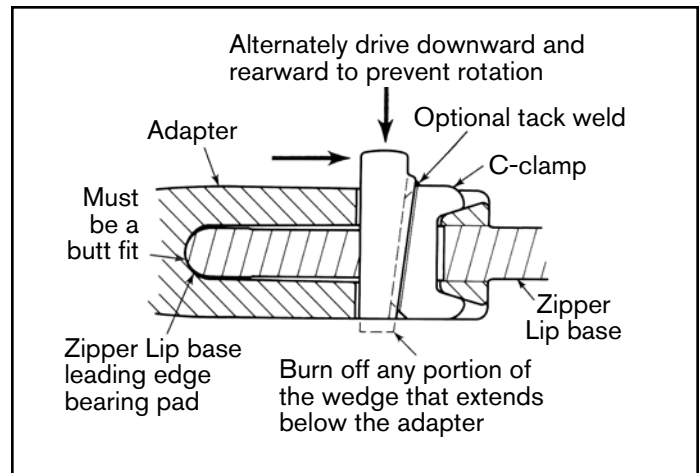

Figure 2
7. When tightening is no longer required, the c-clamp and wedge may be tack welded together for additional security, see Figure 2.